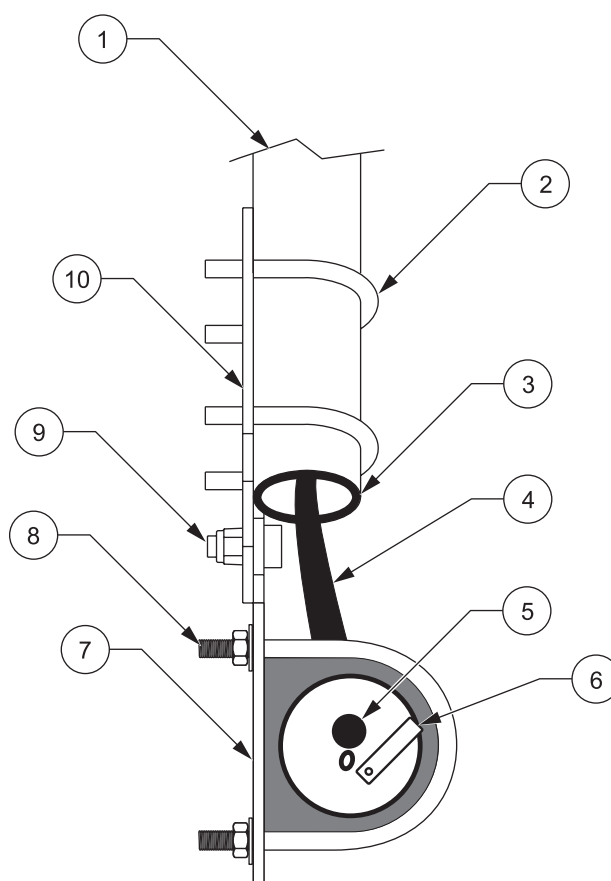

Figure 2 Probe Orientation
2. Orient the probe so the wiper blade is parallel to the probe mounting plate and the large sensor lens is on top (Figure 2 on page 4). Bolt the probe to the probe mounting plate using two cushioned U-bolts.